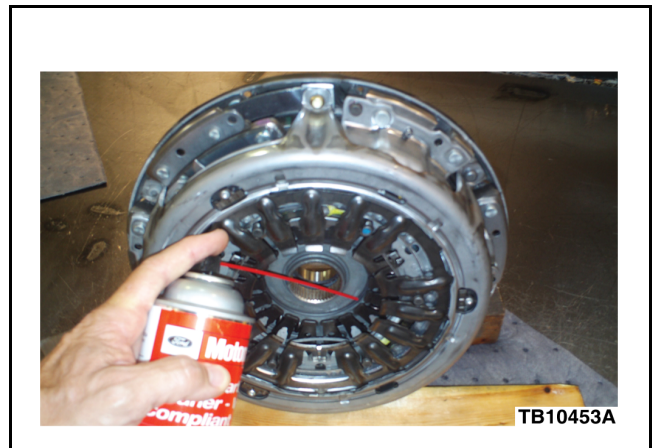

Figure 5 - Article 13-9-4
- (4) Rear of clutch two disc. (Figure 5)